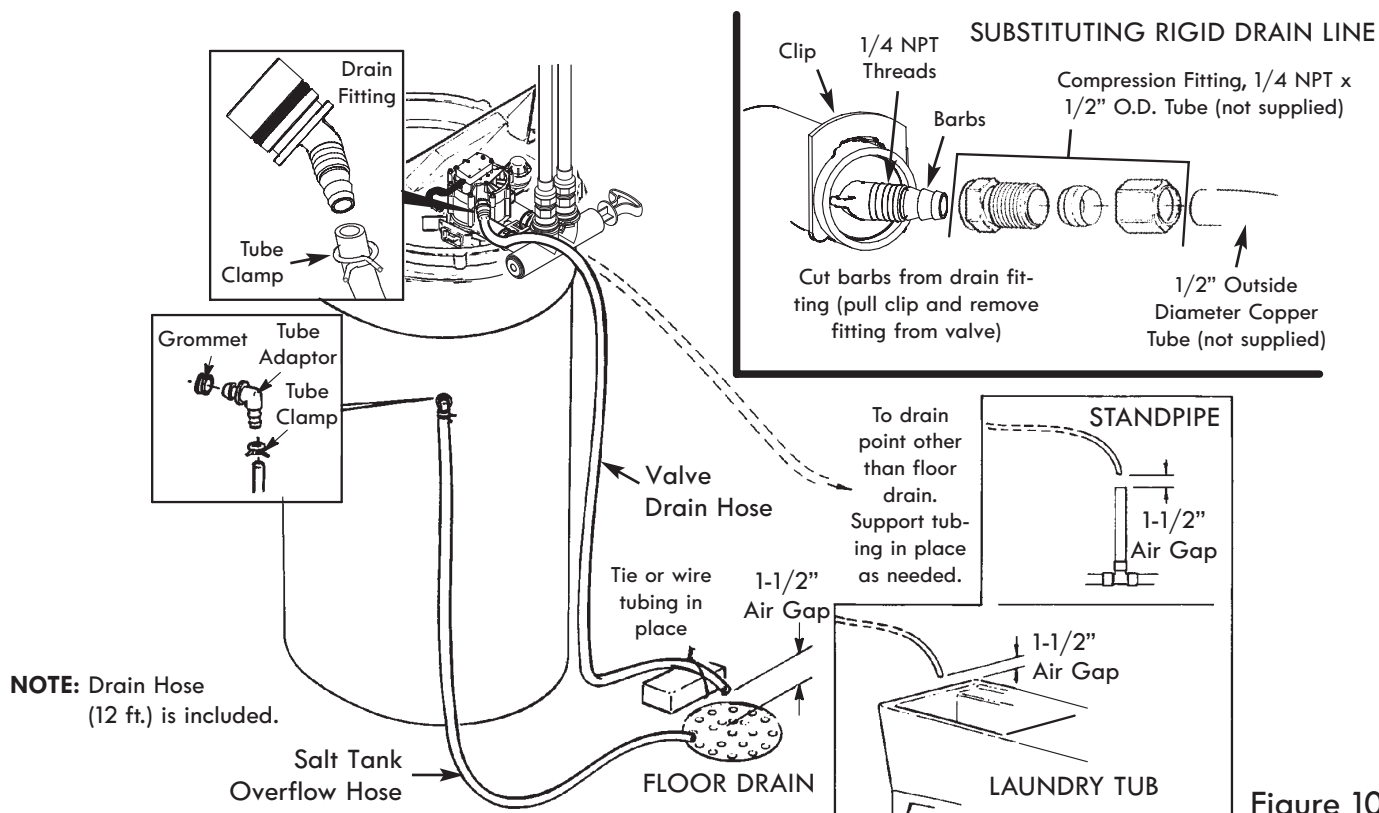

Figure 10
Take a length of 3/8" inside diameter drain tubing (supplied) and attach one end to the drain fitting (see Fig. 10). Use a tube clamp from the parts bag to hold it in place. Put the other end of the tubing over a floor drain, into a laundry tub, standpipe, or other suitable drain. Check your local codes.
1. Locate the rubber grommet, adaptor elbow and tube clamp (see Fig. 10) that are in the parts bag.
IMPORTANT: Overflow water must run down by gravity through the tubing. Do not raise the tubing higher than the adaptor (see Fig. 10).